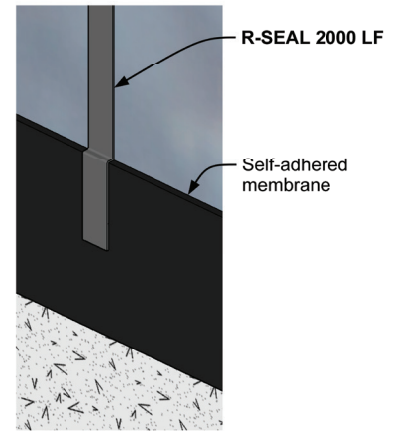
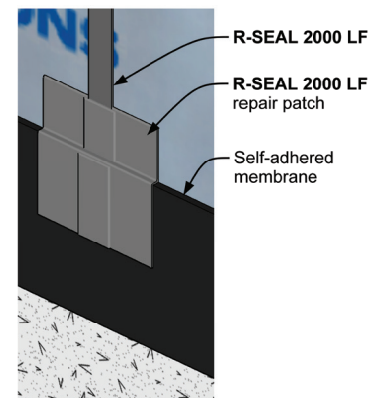

Figure 6
Figure 7
NOTE: In areas where R-SEAL 2000 LF and R-SEAL 6000 overlap, always apply R-SEAL 6000 first. **Reference Figure 6.**
I. Intersection with Membranes: When R-SEAL 2000 LF and membranes over-lap, apply the membrane first. **Reference Figure 6.** When this is not possible and the membrane is applied over the liquid flashing, cover the intersection with a liquid flashing patch. The patch must extend 2" into each surface. **Reference Figure 7.**
NOTE: In areas where R-SEAL 6000 and R-SEAL 2000 LF overlap, always apply R-SEAL 6000 first. **Reference Figure 6.**